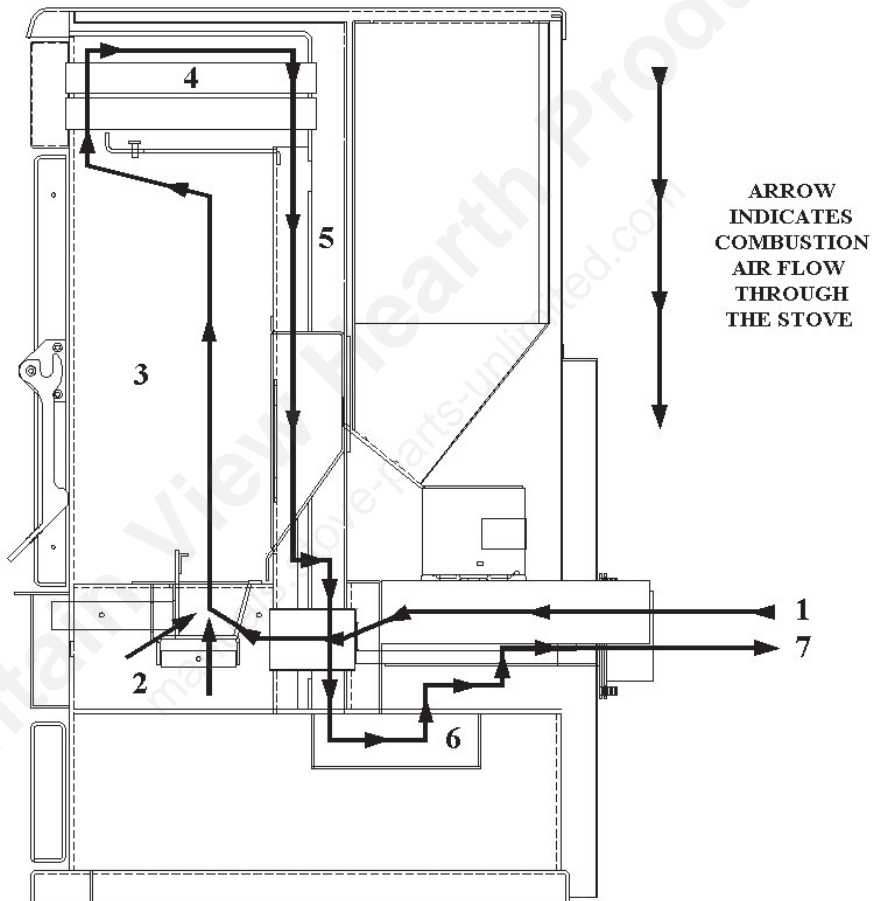

Figure 20
*Location:* The hot air plenum is located behind the firebox and is part of the Burn system of the stove. See Figure 20 on Page 50.